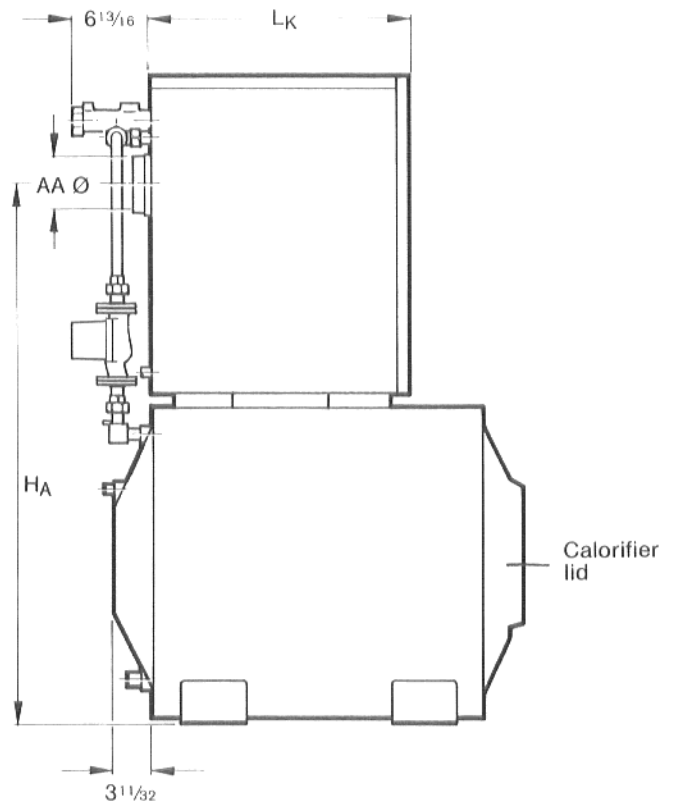

Fig. 3
4. Assembly (Fig. 3 and 4)
The boiler rear panel must project by approx. 10 mm above the rear calorifier insulation (Fig. 3).